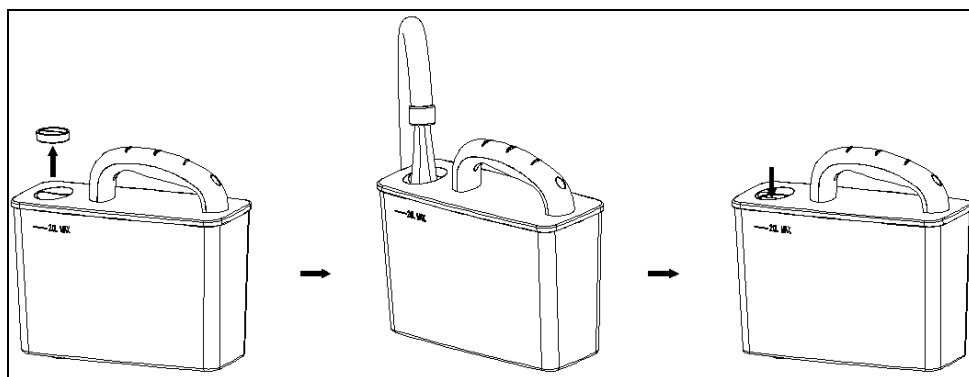

Figure 3
(1) Pull the handle of water tank and take it out of the pedestal. Open the filler cap of water tank and fill water to the water level of MAX (about 2 L) as shown outside the water tank. Cover the filler cap properly (as illustrated in the Figure 3).
(2) Put the water tank back to the pedestal. It should be guaranteed that the water tank is installed properly so that the water level detection will not be influenced and the steam function could work properly.